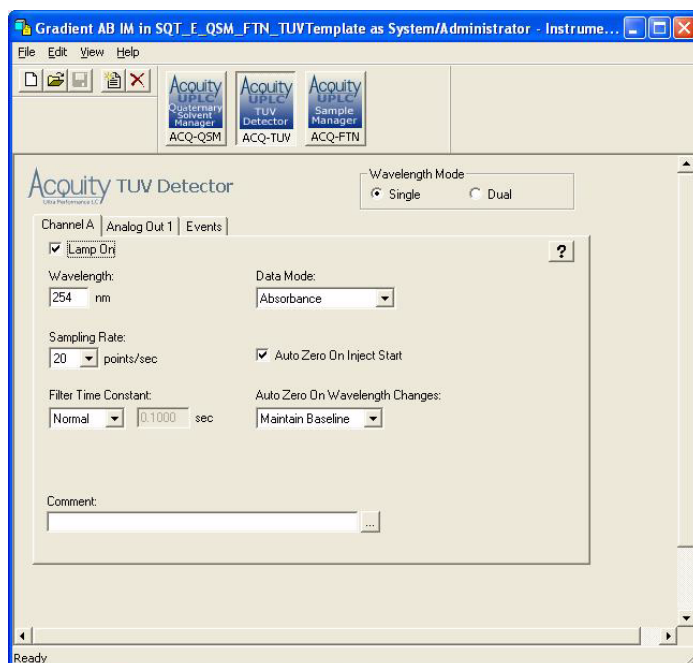

Figure 39 - Gradient Performance Parameters for the TUV
1. Open the instrument or inlet method appropriate for the system (start with the method for solvents A and B), then verify that the parameters settings are set up as shown in Figure 34 through Figure 39. Parameters for both Empower- and MassLynx-based systems must match.